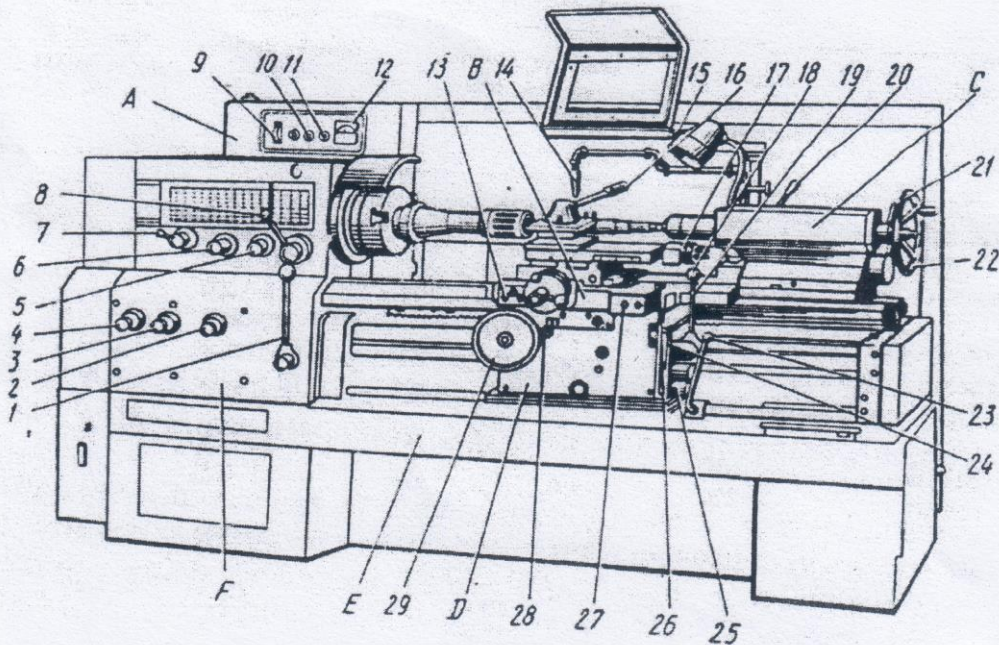

Figure 1
1. Label the schematic diagram of the engine lathe shown in Figure 1.